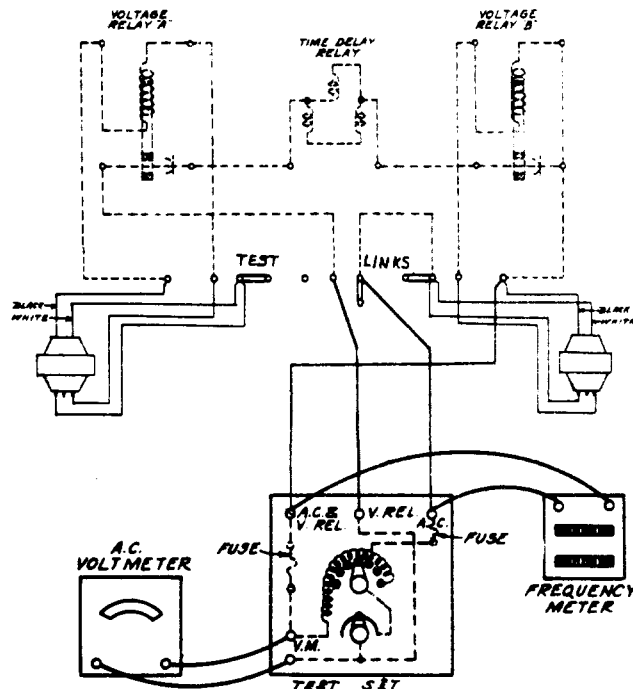

Fig. 10 – Test Connections for Time Delay Relay With and Without Transformers
- (1) Connections to the time delay relay should be changed only after the line service switch directly ahead of the master switch has been opened. Connections should be made as shown in schematic form in Fig. 10. After connections are completed energy for testing the time delay relay may be obtained by closing the line service switch.
- (2) Carefully, open one of the voltage relay contacts with a small wooden stick and allow the aluminum disc to come to rest. Next close the relay contact and note the time which elapses until the contactor switch closes. This test is made with the ac service connected to the master switch.
- (3) If the delay in the closing of the mercury tube switch is too short, loosen the lock nut and turn the stop screw at the right end of the mercury tube switch counterclockwise (increasing the distance the switch must travel to close). If the closing time is too great, turn the stop screw clockwise (decreasing the distance the switch must travel to close). Tighten the lock nut after each adjustment.
- (4) Open the voltage relay contacts and note the time which elapses until the contactor switch opens. If the delay in opening is too short, loosen the lock nut and turn the stop screw at the left end of the mercury switch counterclockwise (increasing the distance the switch must travel). If the delay in opening is too long, turn the stop screw clockwise (decreasing the distance the switch must travel). Tighten the lock nut after each adjustment.
- (5) If the relay fails to operate mechanically, check the mechanical requirements. If the relay fails to operate electrically, note that the voltage relays operate and their contacts close. Test the coil circuits with a voltmeter by connecting it across the two lower terminals of the time delay relay. If there is no voltage the trouble is external to the time